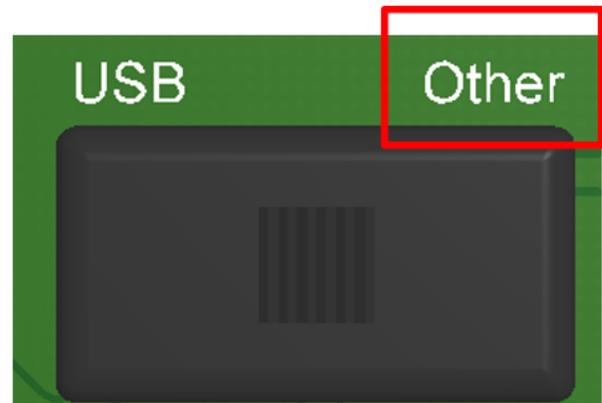

Figure 21. USB vs Other = 'Other'
- If you are going to power the programming board with an external power supply or wall socket then set the switch to the “Other” state as shown in Figure 21